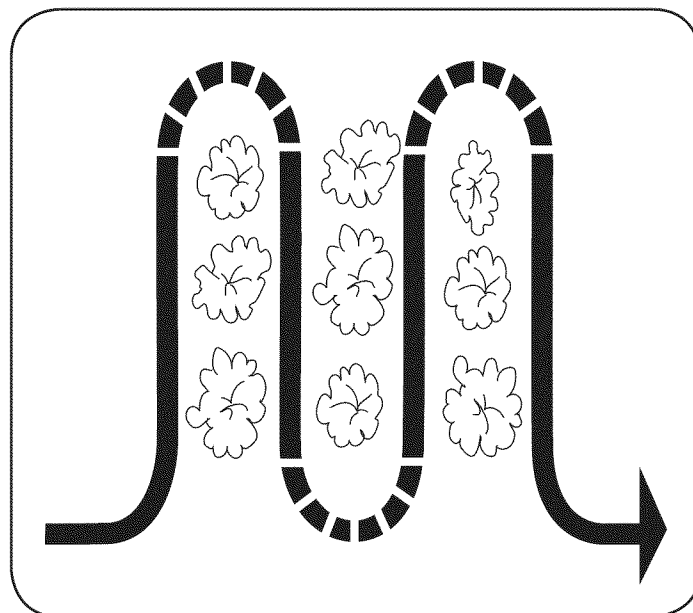

Figure 12
- When cultivating (breaking up the surface soil around the plants to destroy weeds, See Figure 12), adjust the tines to dig only 1" to 2" deep. Using the shallow tilling depth helps prevent injury to the plants whose roots often grow close to the surface. If needed, lift up on the handlebars slightly to prevent the tines from digging too deeply. (Cultivating on a regular basis not only eliminates weeds, it also loosens and aerates the soil for better moisture absorption and faster plant growth.) Watering the garden area a few days prior to tilling will make tilling easier, as will letting the newly worked soil set for a day or two before making a final, deep tilling pass.